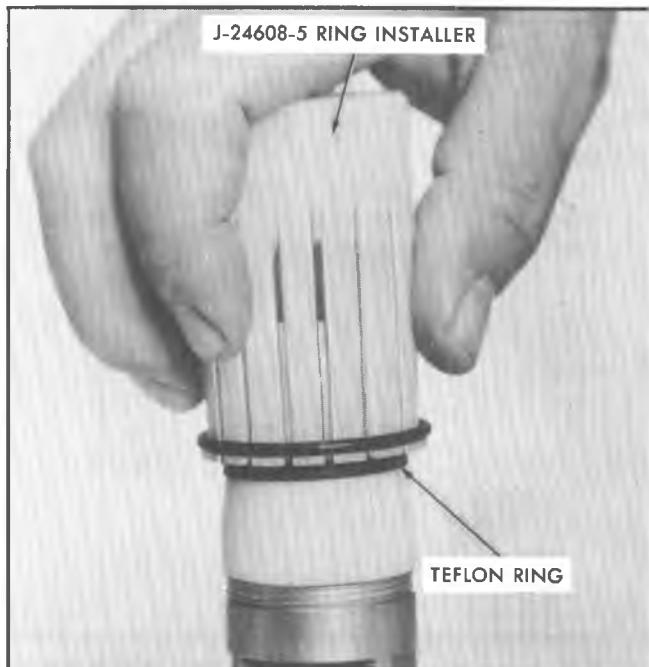

Fig. 46--Installing Teflon Piston Ring
5. Push the Ring Installer J-24608-5 down over the Installer Guide J-24608-2 to install the Teflon ring in the piston ring groove (Figs. 46 and 47). If the Teflon ring is slightly off position in the ring groove, it can be positioned into place by fingernail or blunt-edged tool that will not damage the piston.